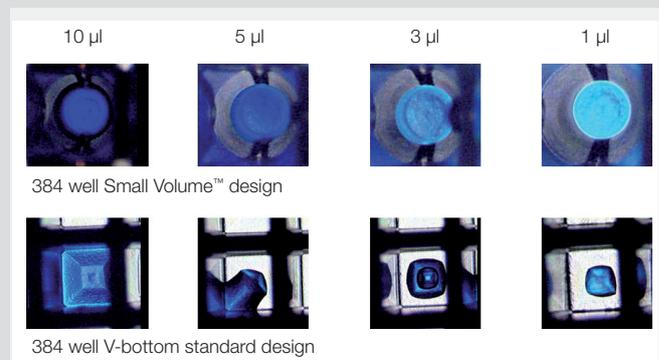
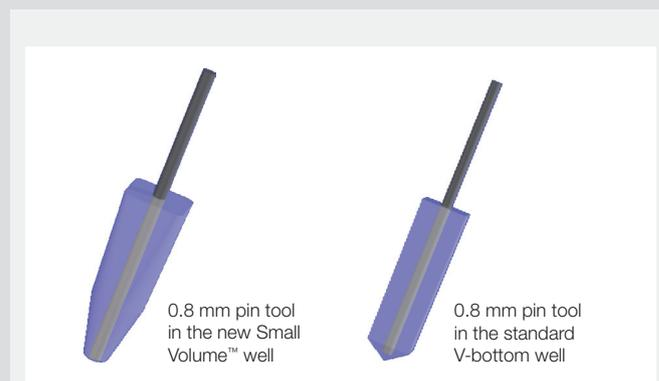

Figure 15: Location of liquid at the bottom of the new well in comparison to a standard V-bottom well.
Figure 16: Positioning of pin tools.
- The flat well bottom of design 2 was easily accessible in contrast to the standard V-bottom design (Fig. 16).
Further tests with colored DMSO solution demonstrated that the remaining liquid, e.g. compounds in DMSO, aggregate in the well bottoms of design 2, whereas the liquid within standard V-bottom wells tended to spread out (Fig 15). Furthermore the liquid height level increased at a faster rate in design 2 in comparison to the classical V bottom well (Fig. 14). With the combination of a clearly focused access for pin tools (Fig. 16), sufficient tolerances to avoid crashes and limited space to avoid liquid distribution, well design 2 allowed a precise direct compound transfer for the postulated specification criteria. In summary, design 2 exhibited the best performance and was therefore selected as the basis for the new well design.